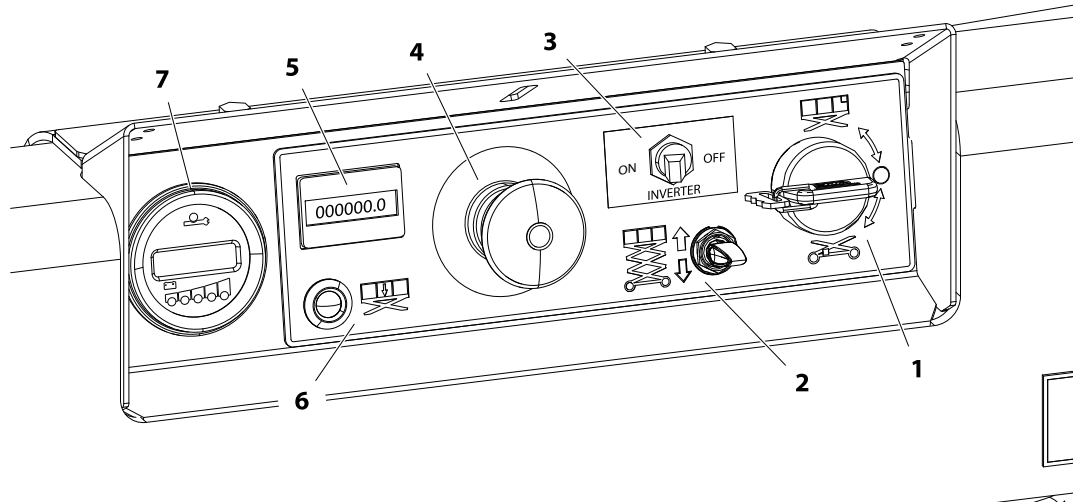

Figure 3-2. Ground Control Station
1. From the **Ground Control Panel** with no load in the platform: (See Figure 3-2. on page 3-5)